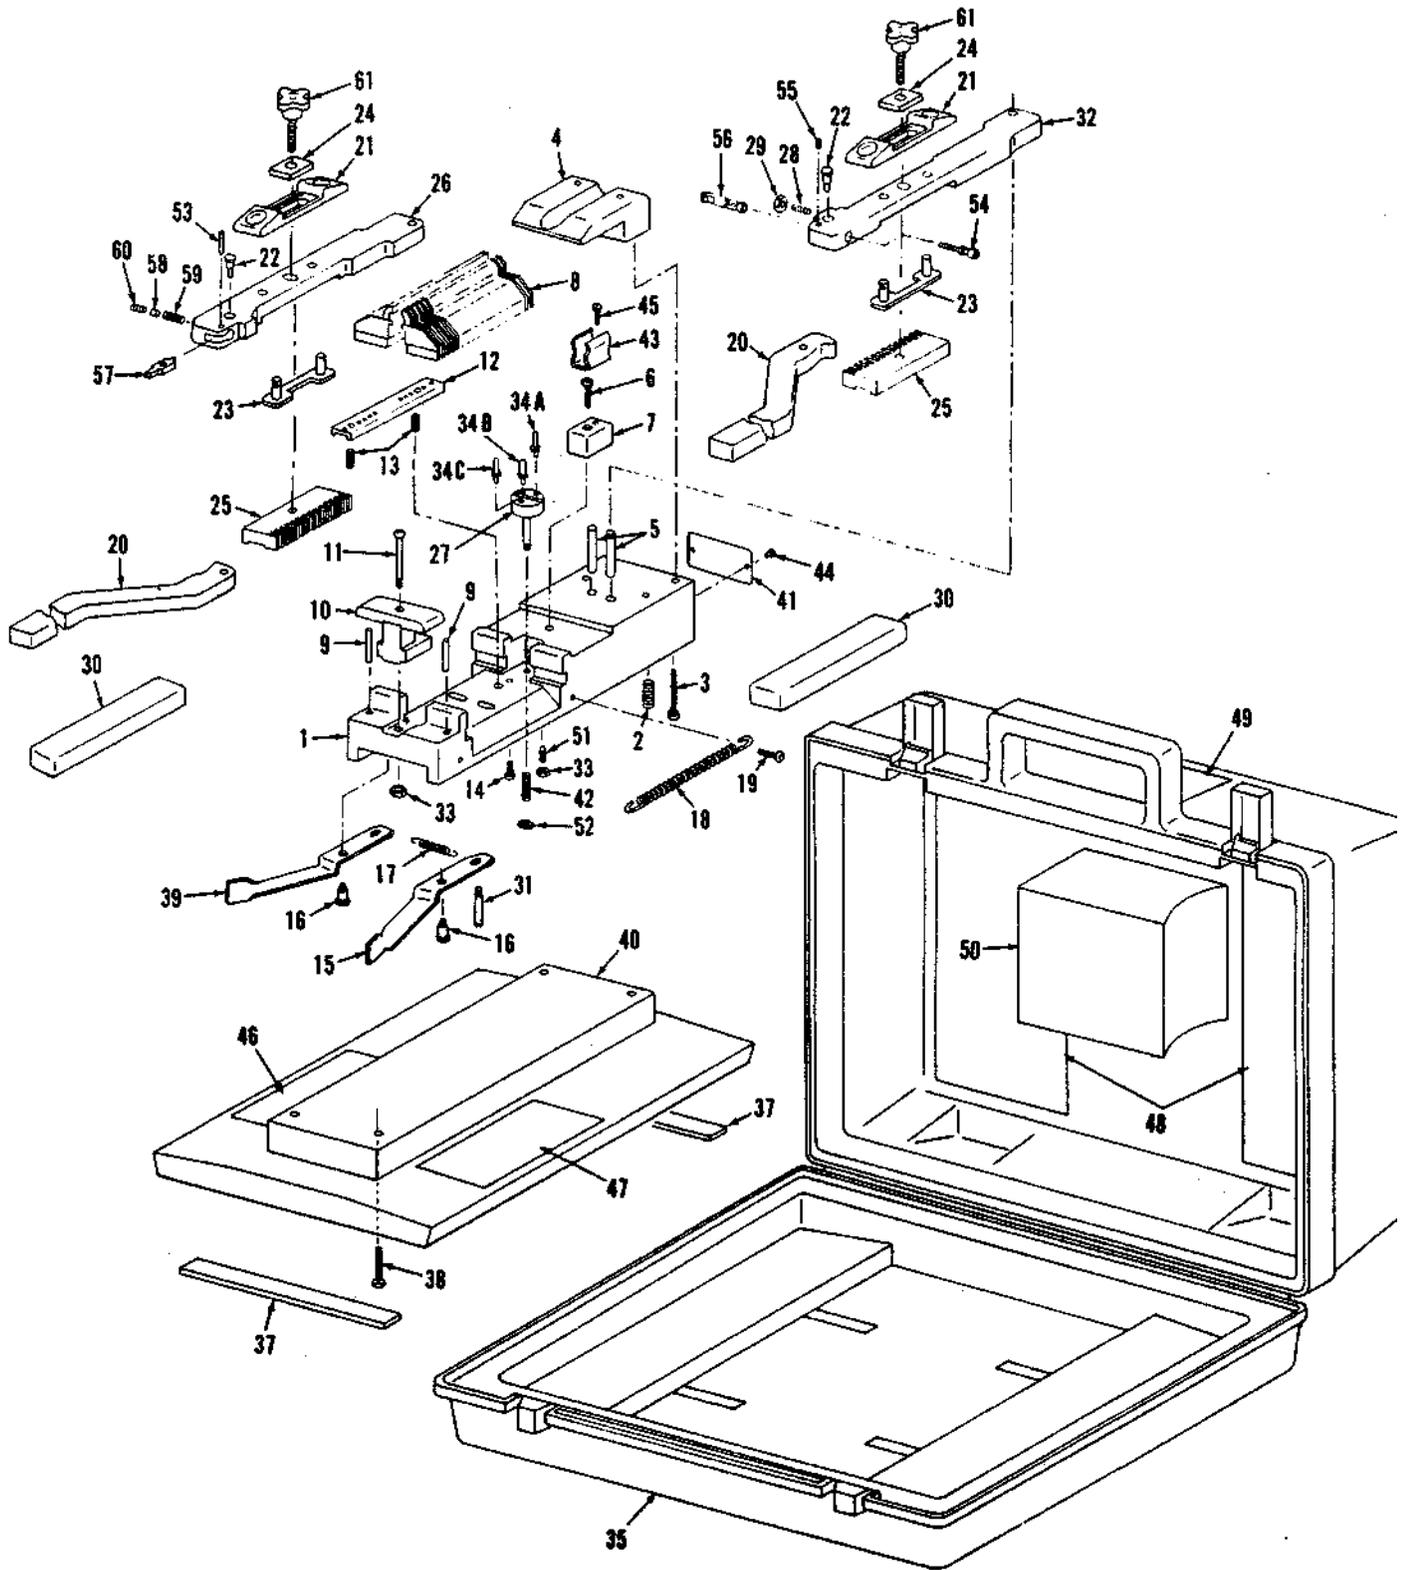

Figure 5-1. Multiwire Termination Tool, Exploded View
The instructions in the following paragraphs are important for the correct operation of the wire termination tool. Figure 5-1 is an exploded view of the tool and Section V contains the parts list.
Periodically lubricate all wear areas (see Figure 5-1) on combs (8), comb spreader pin (31), comb levers (22, 23), tooth carriers (26, 32), pivot pins (22, 9) and spring ends (17) by applying a thin coat of Molykote Number 505. Wipe off all excess lubricant.
To insure that wire insertion depth is correct, adjust setscrew (28) on right hand tooth carrier (32) as follows (refer to Figure 5-1):
- c. Check that spacing between tooth plates (25) is 0.095-0.105 inch. If not as specified, loosen nut (29) and adjust setscrew (28) for correct spacing and tighten nut.
- e. Check that spacing between tooth plates (25) is 0.185-0.195 inch.
- f. Setscrew (28) should come in contact with left hand tooth carrier (26) with tool handles closed together after final adjustment.
Replacement parts for the Amphenol wire termination tool are shown in the exploded view, Figure 5-1, and in the accompanying parts list.